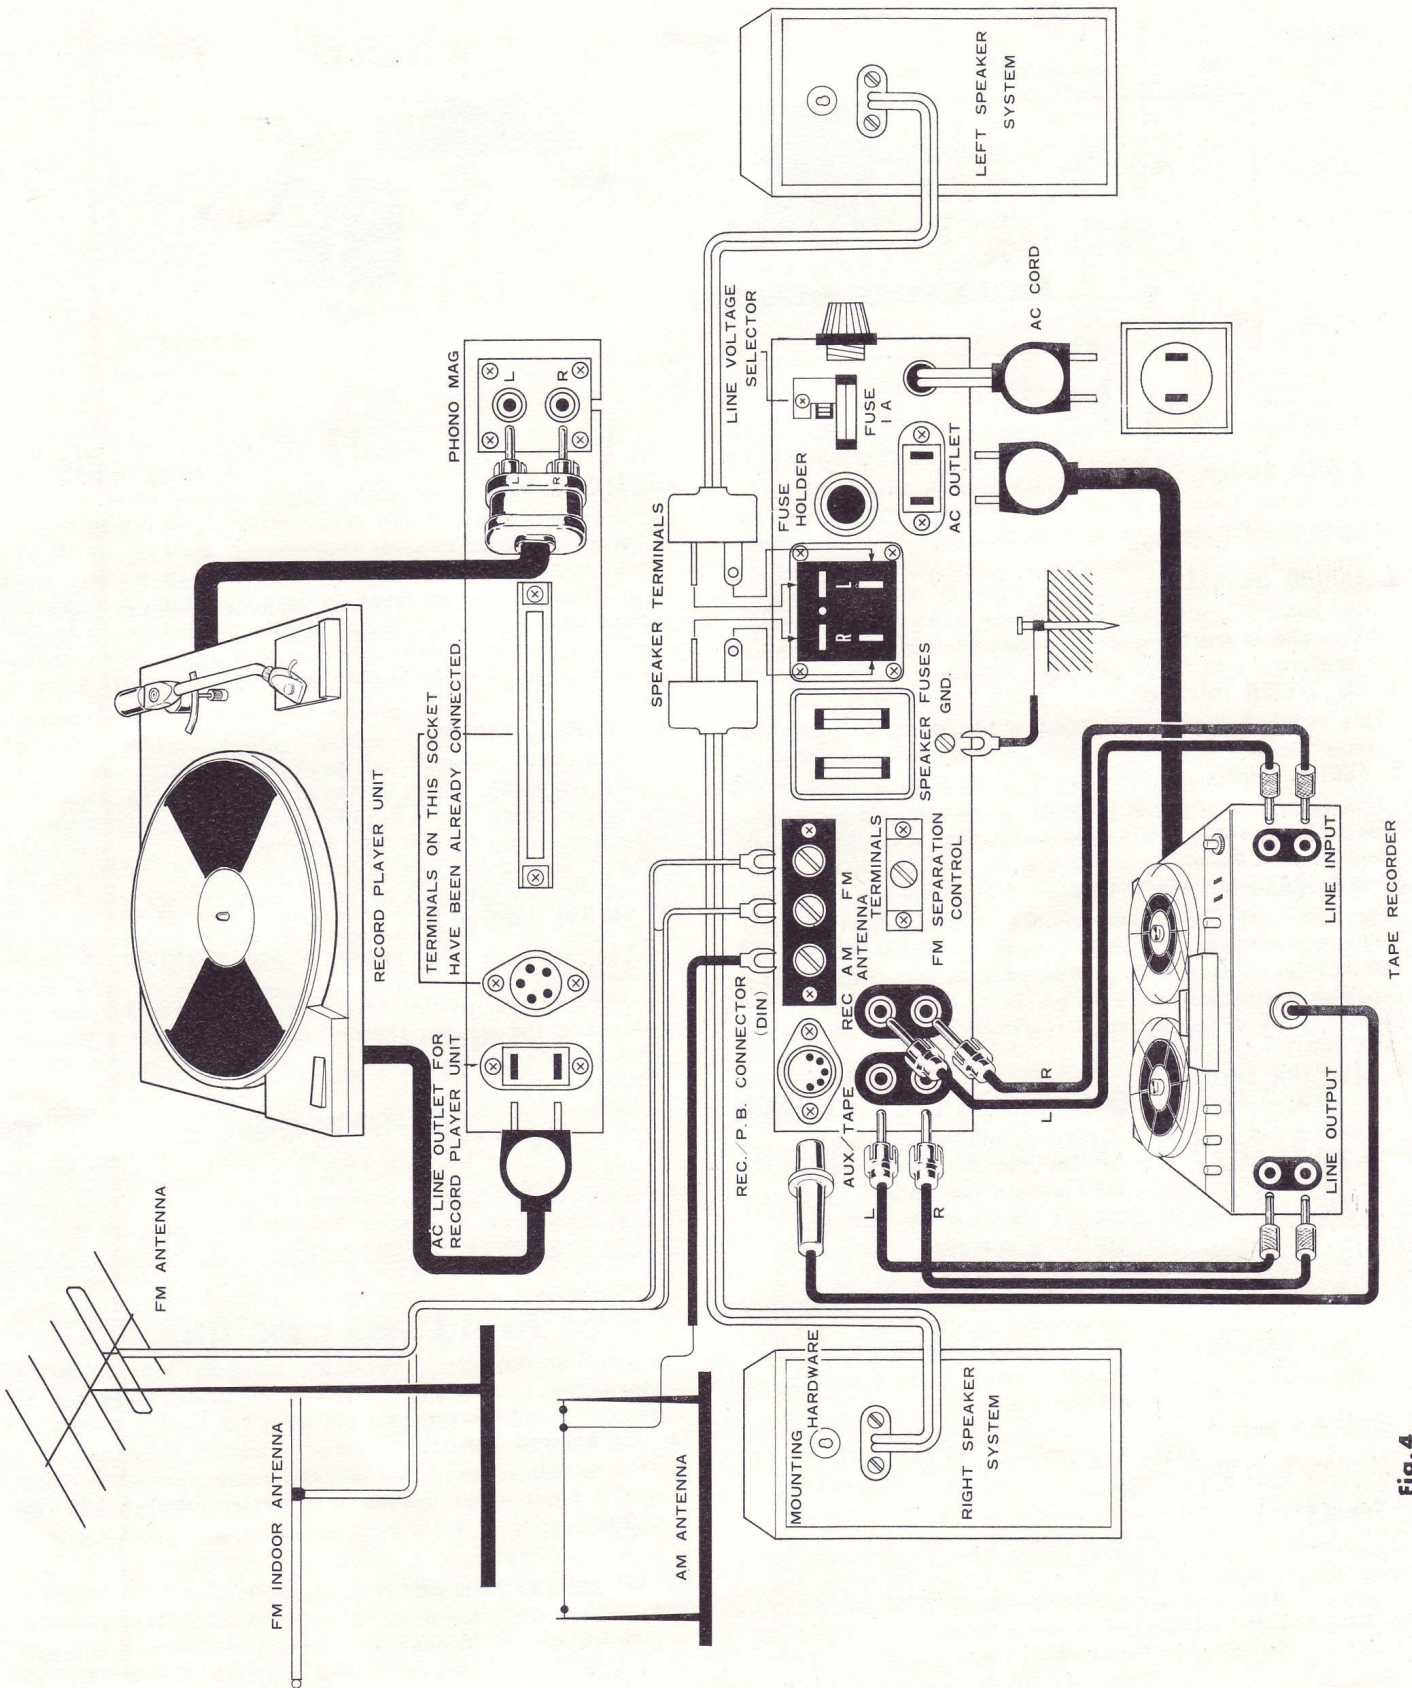

Fig. 4
1. Before mounting the turntable platter in the player unit, connect the player AC line cord to the AC line outlet (27) and also the player output plug to the PHONO terminal jacks (28), while raising the player unit as shown in Fig. 4. Be sure that the letters L and R marked on the player output plug agree with those on the jacks.